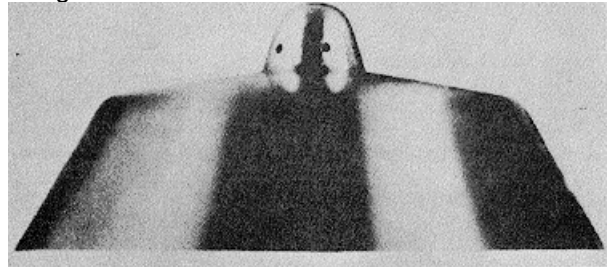

Fig. 6-1-17, F60105. New injector cup tip
1. Inspect injector spray holes and tip with magnifying glass. Compare with new cup shown in Fig. 6-1-17. Discard cup if any of following conditions exist.